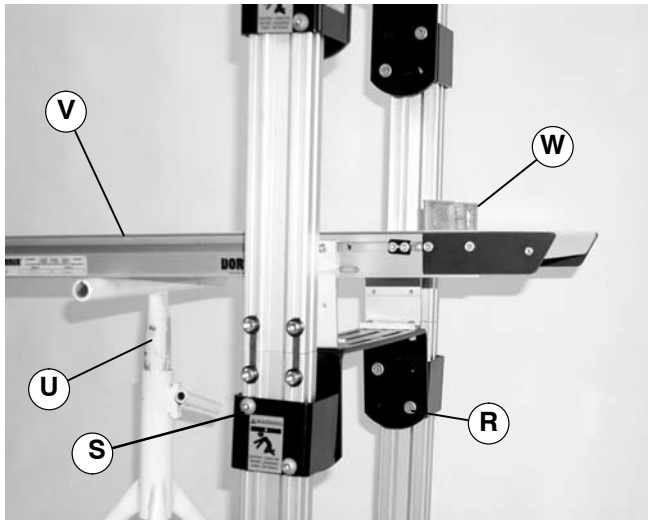

Figure 12
1. Install a support (U of Figure 12) below conveyor (V) that will be adjusted.
2. Loosen two flange socket head screws (R of Figure 12) on each side of conveyor (V).
3. Loosen two button head screws (S) on each side of conveyor (V).
4. Adjust conveyor to desired height. Using a level (W), ensure conveyor is level from side to side.
5. Tighten two flange socket head screws (R of Figure 12) on each side of conveyor (V) to 24 ft-lb (33 N-m).
6. Tighten two button head screws (S) on each side of conveyor (V) to 17 ft-lb (22.5 N-m).
- Adjust conveyor to desired angle. Using a level (W of Figure 12), ensure conveyor is level from side to side.
- Tighten angle adjustment screws (R) to 24 ft-lb (33 N-m).